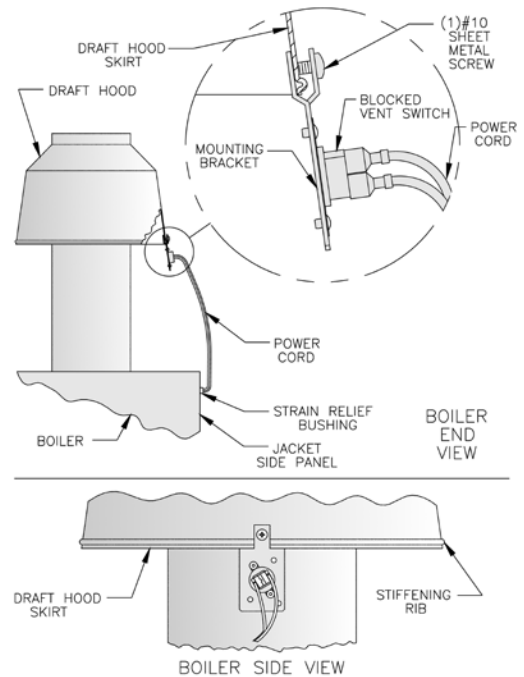

Figure 9: Blocked Vent Switch Installation
3. Position mounting bracket onto lower edge of Draft Hood skirt. Locate center tooth (with #10 sheet metal screw) on outside and other two teeth inside Draft Hood skirt. See Figure 9.
8. Verify power cord, mounting bracket and Blocked Vent Switch are secure and located as shown in Figure 9.